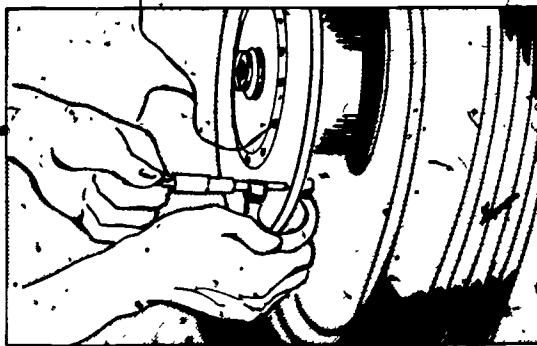

FIGURE 1
- C. Measure thickness of disc on the worn portion with micrometer, and compare readings with specifications in service manual (Figure 1)